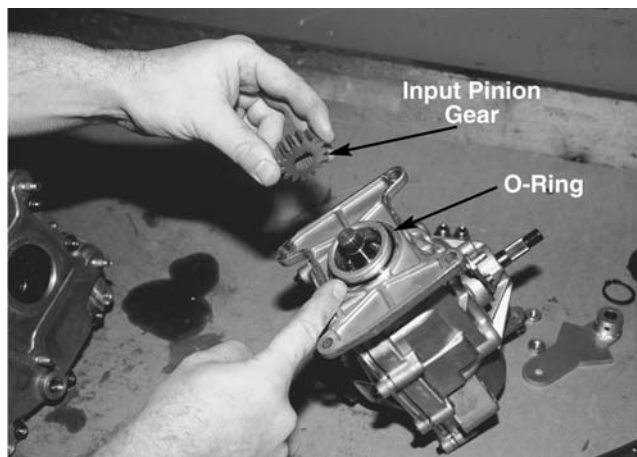

Figure 10-73.
33. Prior to installing the pump onto the housing be sure that the "O" ring is in place on the pump. Set the pump up on its end and install the input pinion gear on the pump shaft. See Figure 10-73.